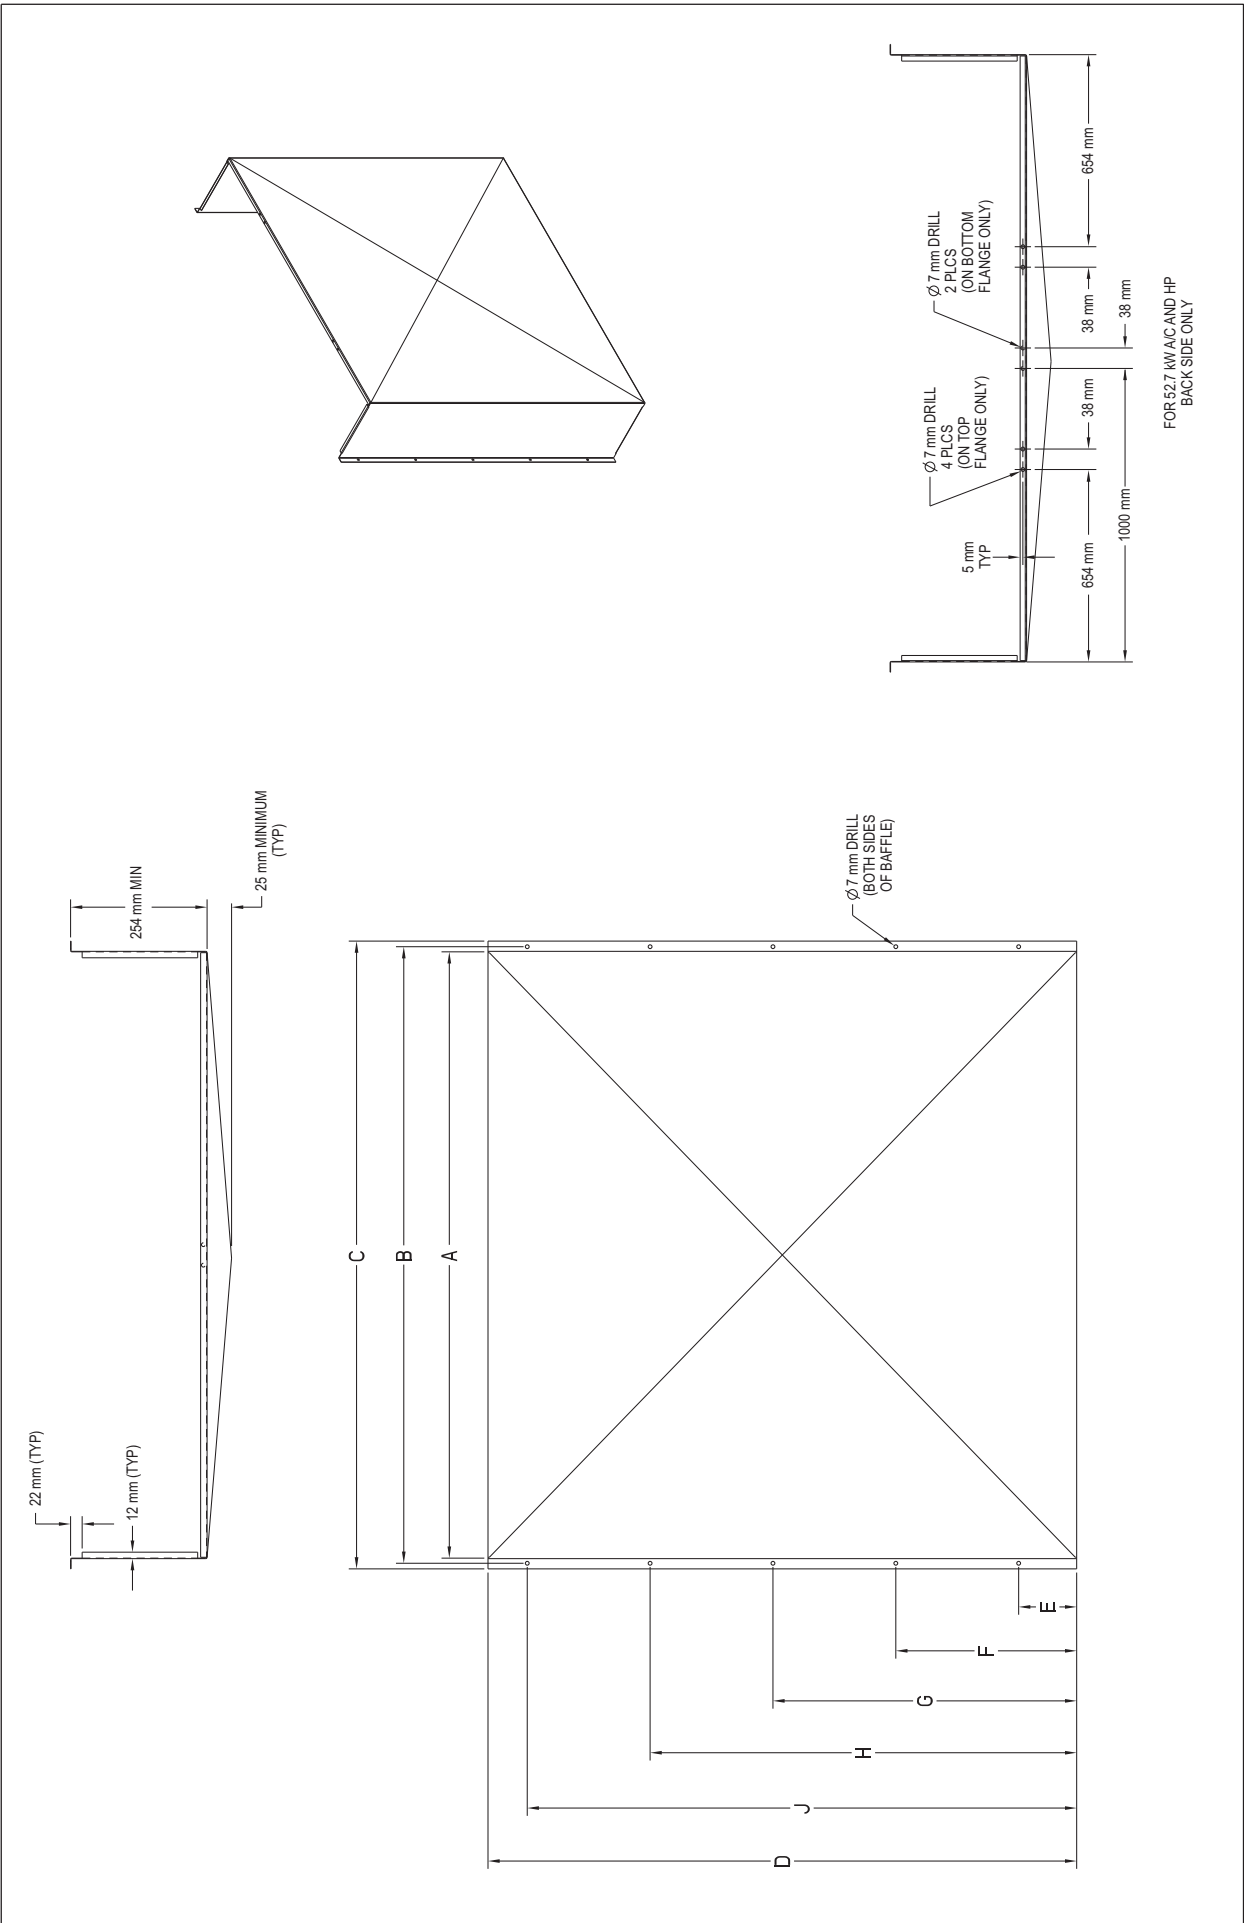
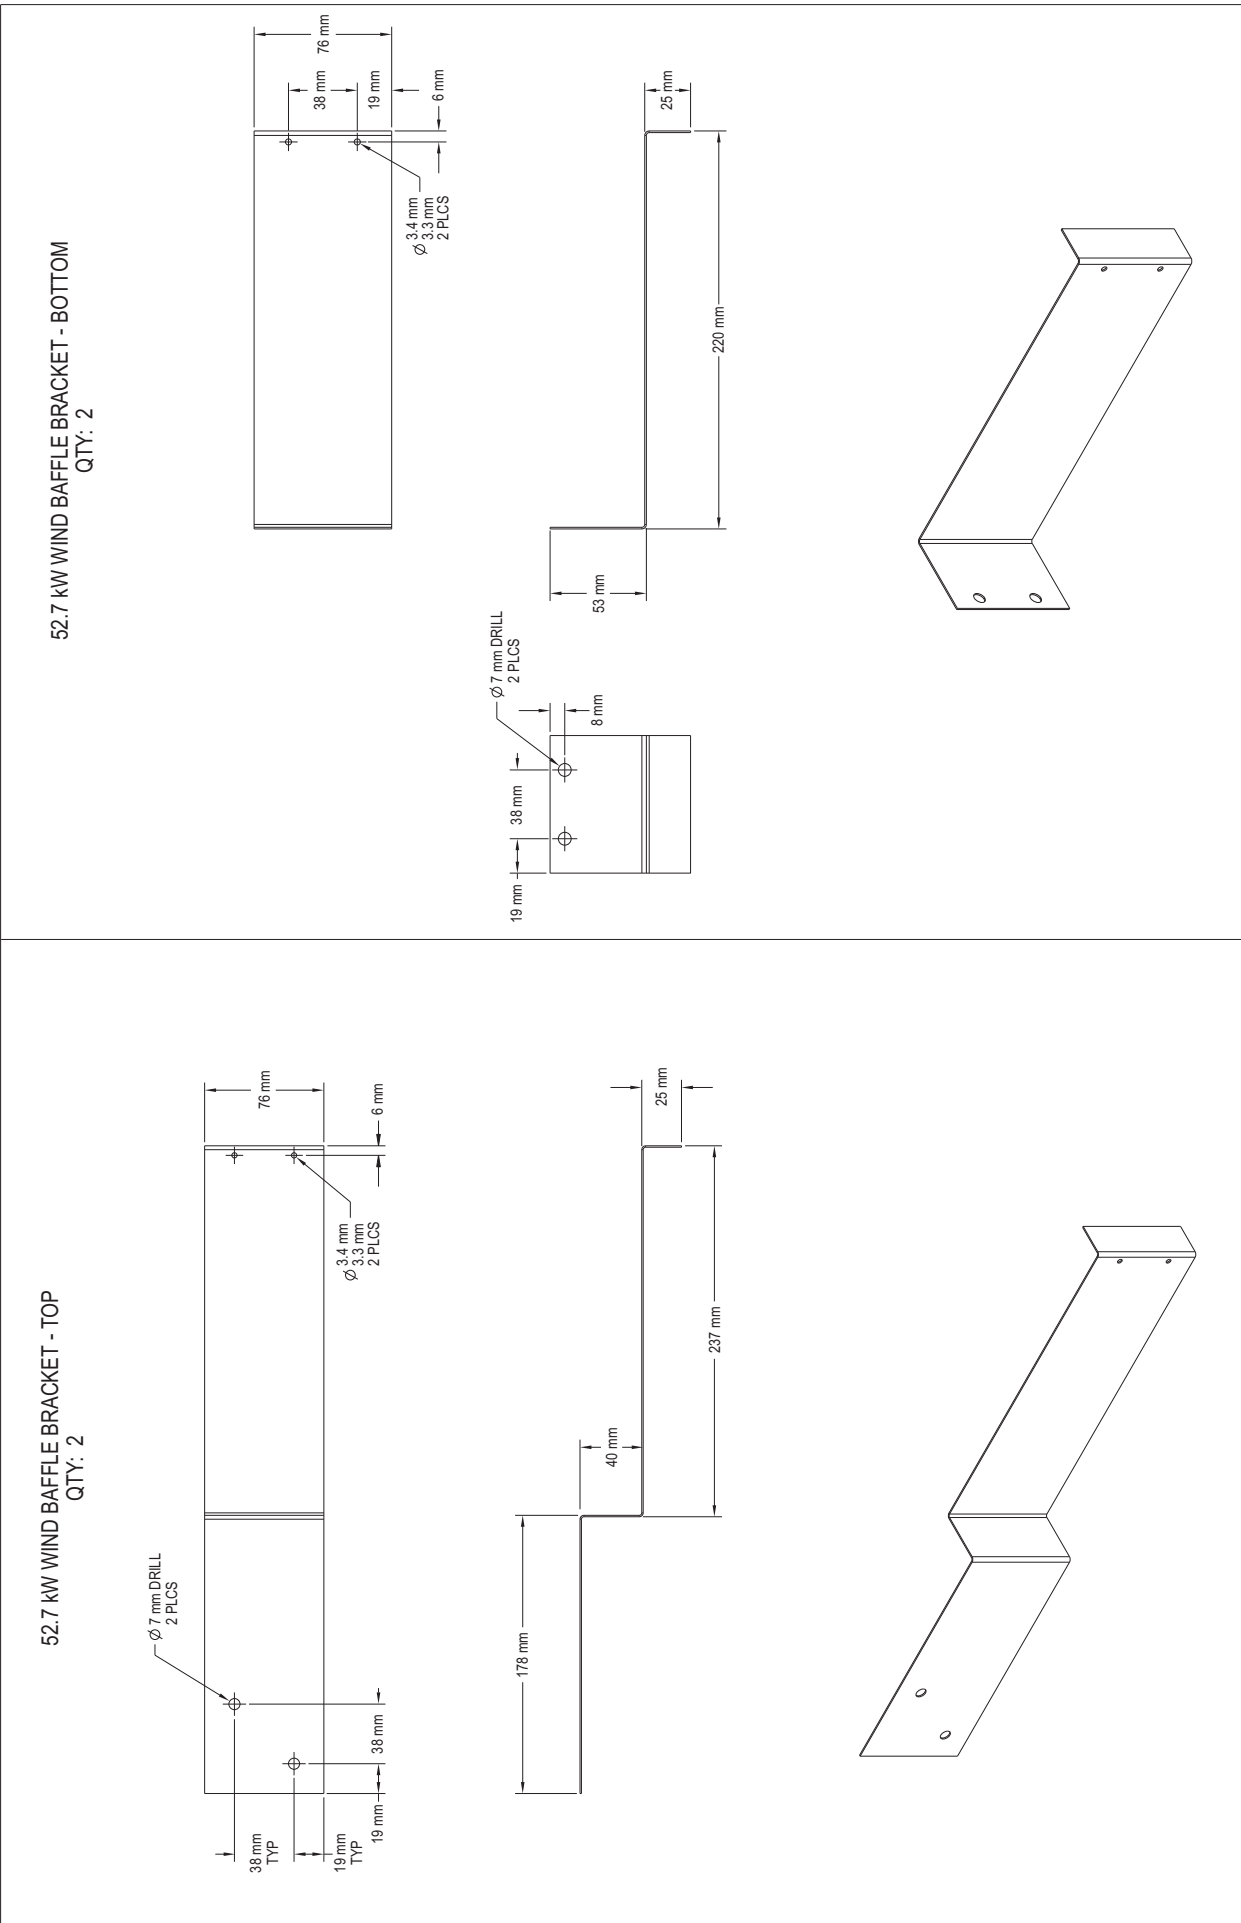

Fig. 34 - Wind Baffles - Fabrication
Fig. 35 - 52.7 kW Wind Baffle Brackets - Fabrication
- Use 20-gauge sheet metal to fabricate wind baffles (see Fig. 34 and Table 13) and mounting brackets (see Fig. 35).